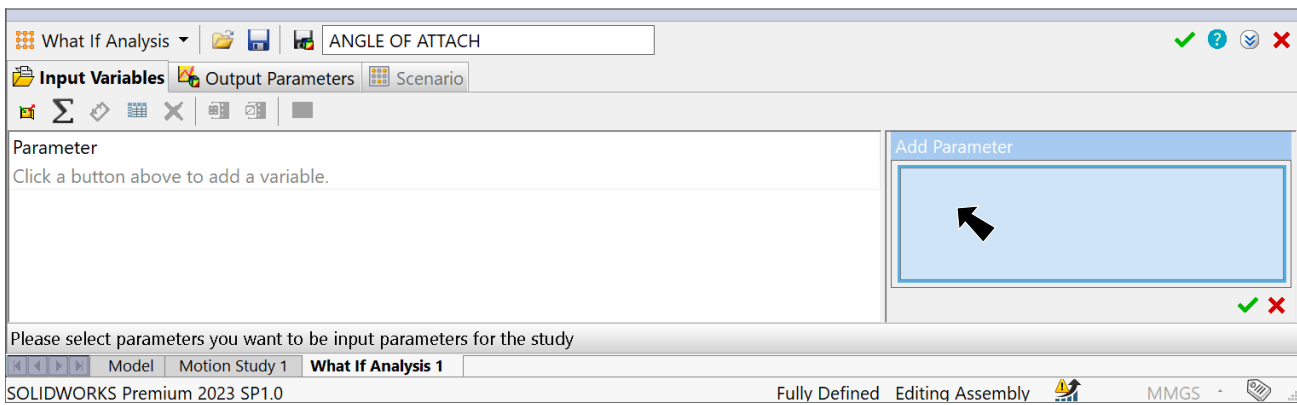

Fig. 2
Step 2. In the Add Parameters pane, Fig. 2.